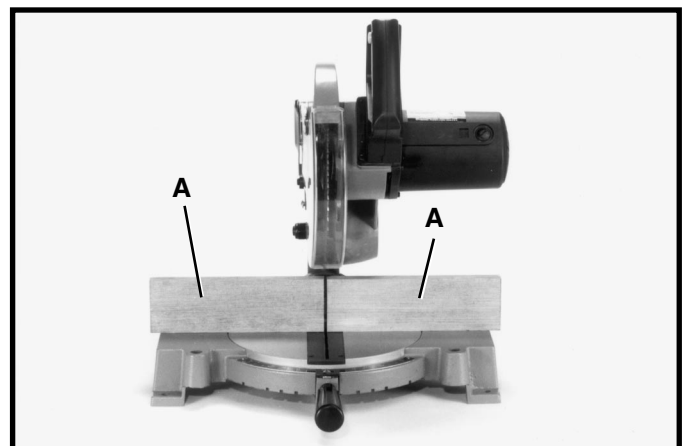

Fig. 39
Holes are provided in the fence to attach an auxiliary fence (A) Fig. 39. This auxiliary fence is constructed of straight wood approximately 1/2 inch thick by 3 inches high by 20 inches long. **NOTE:** The auxiliary fence (A) is used **ONLY** with the saw blade in the 0 degree bevel position (90 degrees to the table). When bevel cutting (blade tilted) the auxiliary fence will have to be removed.